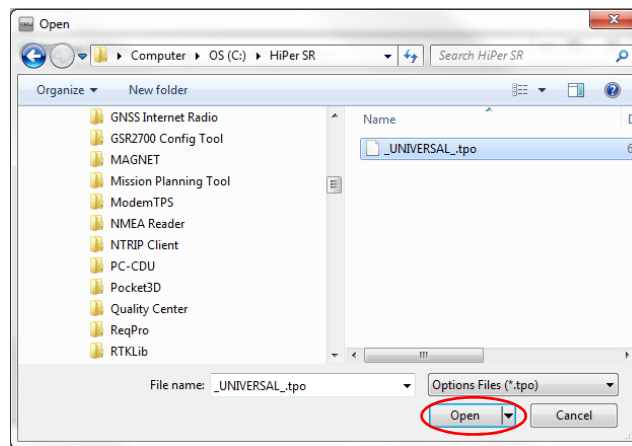

Figure 18: Load OAF
3. Navigate to the location of the new Option Authorization File (Figure 18).
4. Select the appropriate file, and click **Open** (Figure 18).